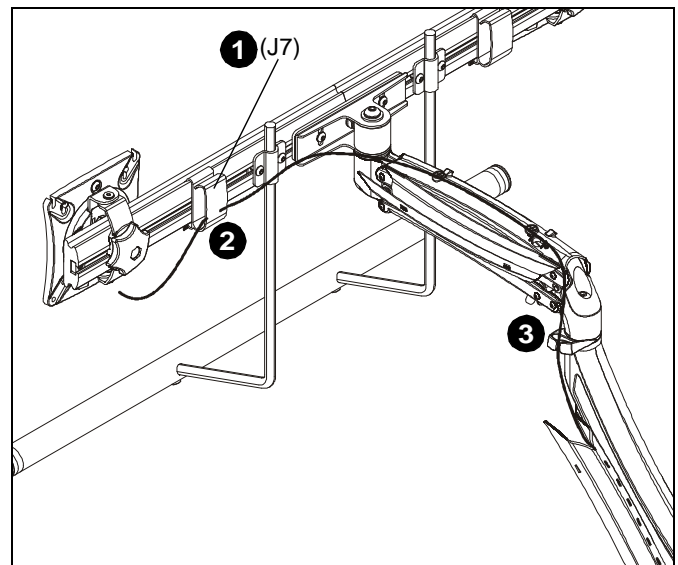

Figure 29
1. Install array cable clips (J7) to back of array. (See Figure 29)
2. Route cables through array cable clips (J7) as desired. (See Figure 29)
3. Route cables through arm cable clips as desired. (See Figure 29)